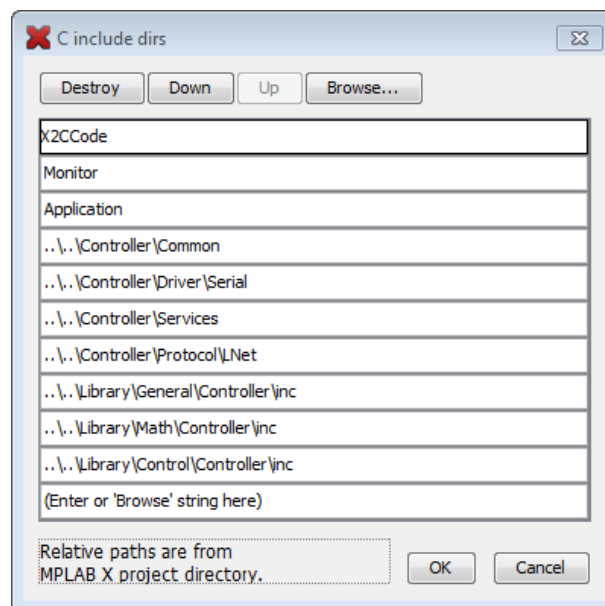

Figure 28: Default path variables for the include files
3. In the case the demo application is copied/moved to a different location, the include paths have to be adapted. To ensure the compiler uses the correct path variables right click on the **Projectname** → **Properties** → **XC16 Global Options** → **xc16-gcc**. In the drop down menu **Option categories** choose **Preprocessing and messages**. Click on the dots beside **C include dirs**. There are relative paths to the needed include files listed as seen in Figure 28. Correct the links by double clicking on the path variables.